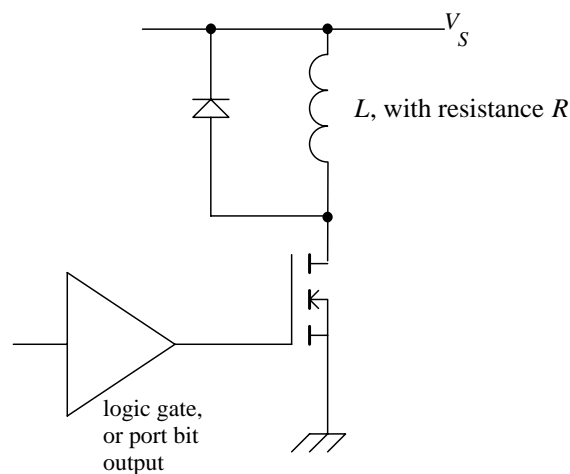

Fig Q2.1
- (a) PWM (Pulse Width Modulation) is a technique widely used to control the speed of DC motors. Explain, using diagrams as appropriate, the principle of this speed control technique in as much detail as you can. You may if you wish make reference to the circuit diagram of Fig. Q2.1, but you do not have to do this.